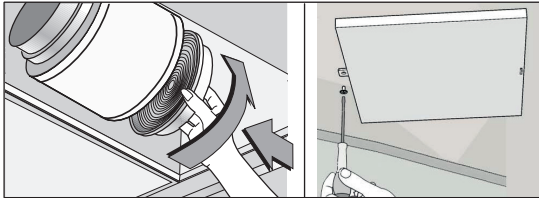

Fig.7
• **ACTIVATED CARBON FILTERS** (Only filtering types) (Fig. 7):